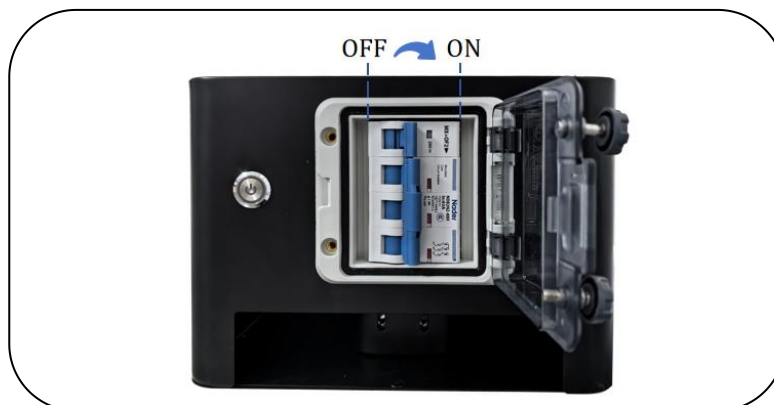

Figure 29 Open the Circuit Breaker on BDU
- 1) Toggle the circuit breaker on the primary battery pack BDU to ON as shown in Fig. 29.